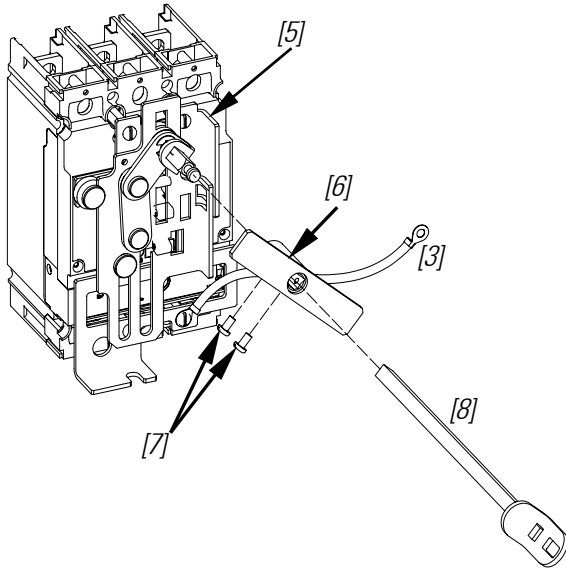

Figure 6. Installing the extension shaft and coupler assembly on to FENRM4 assembly.
- b. Place the coupler (6) on to the crank in the base asm (5) and fasten by screw, #8-32 x 5/16" (7), as illustrated in Figure 6. Tighten the screws to 16 - 20 in-lb
- e. Attach the handle arm [8] to the coupler [6] with #8-32 x 5/16" screws [7], as illustrated in Fig6. Tighten the screws to 16 - 20 in-lb.